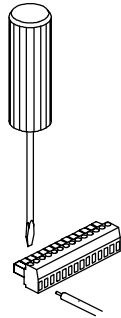

Figure 4 - Inserting the wire
- 8) Loosen the terminal block connector screw of the selected position, insert the wire and tighten the screw (see Figure 4).